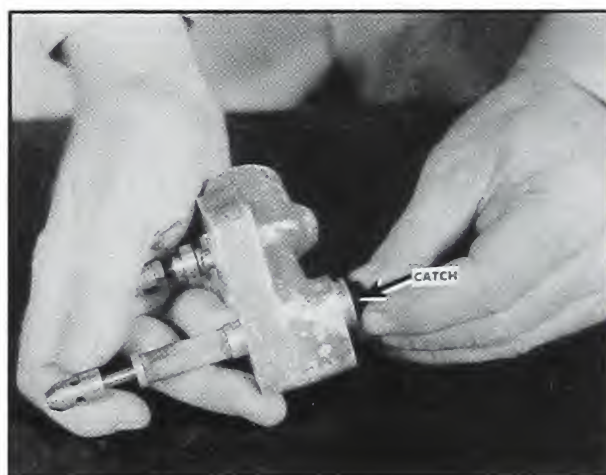

Fig. 5-250. Remove valve catch
3. Remove the valve catch and pull the valve assembly from the stop housing. Fig. 5-250.